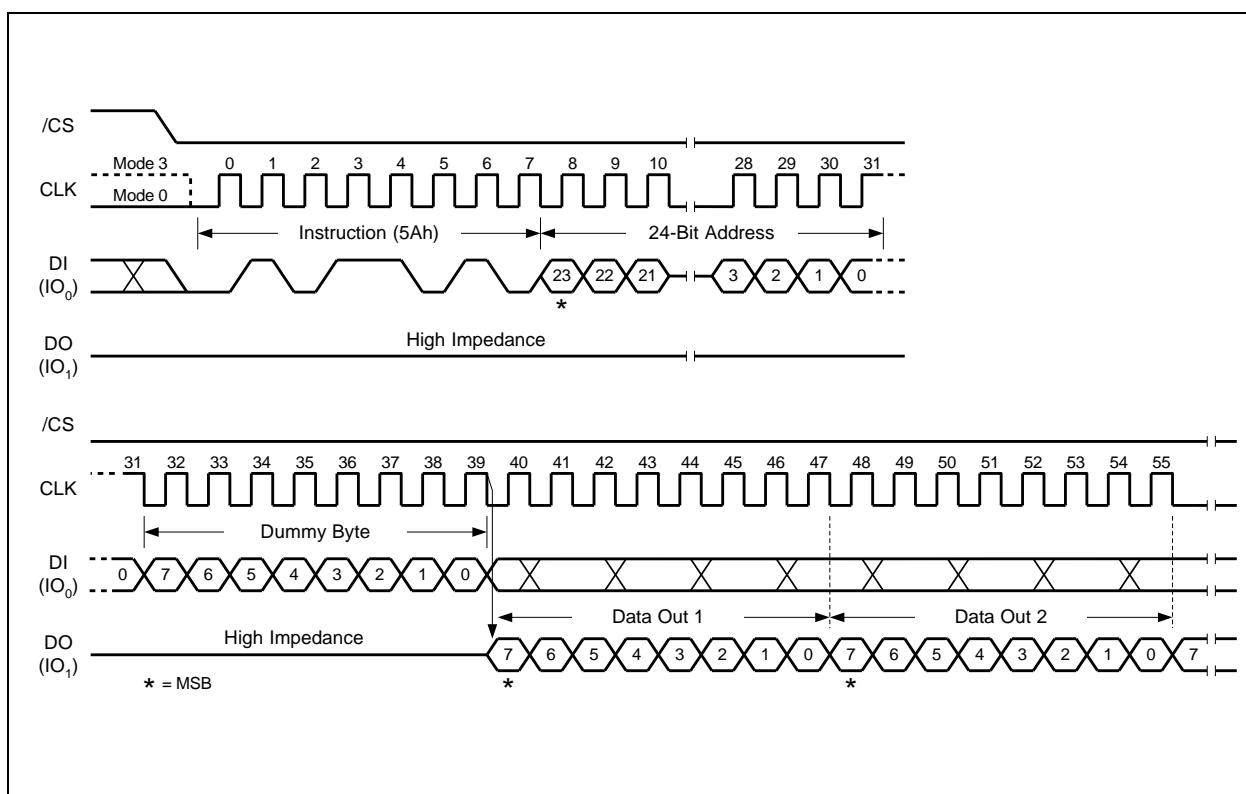

Figure 44. Read SDFP Register Instruction Sequence Diagram
The Read SDFP instruction is initiated by driving the /CS pin low and shifting the instruction code “5Ah” followed by a 24-bit address (A23-A0)(1) into the DI pin. Eight “dummy” clocks are also required before the SDFP register contents are shifted out on the falling edge of the 40th CLK with most significant bit (MSB) first as shown in Figure 44. For SDFP register values and descriptions, please refer to the Winbond Application Note for SDFP Definition Table.